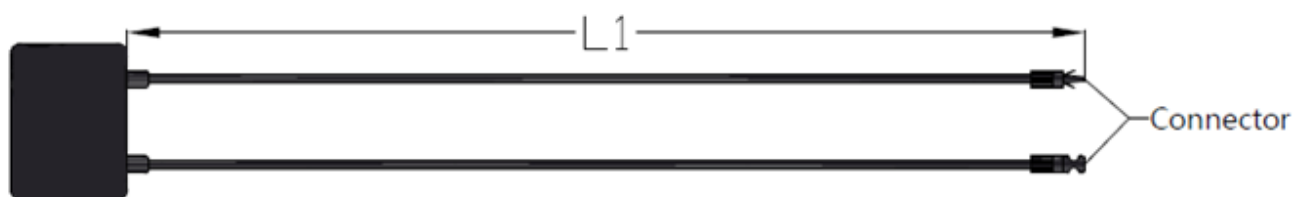

Figure 9: Junction box
- h) The cable of the junction box is defined as L, as showed below in Figure 9. For Jinko standard module, L is 900/1200mm; and for customized module, L can be based on your condition. Please take the cable length into consideration before designing the wiring layout.